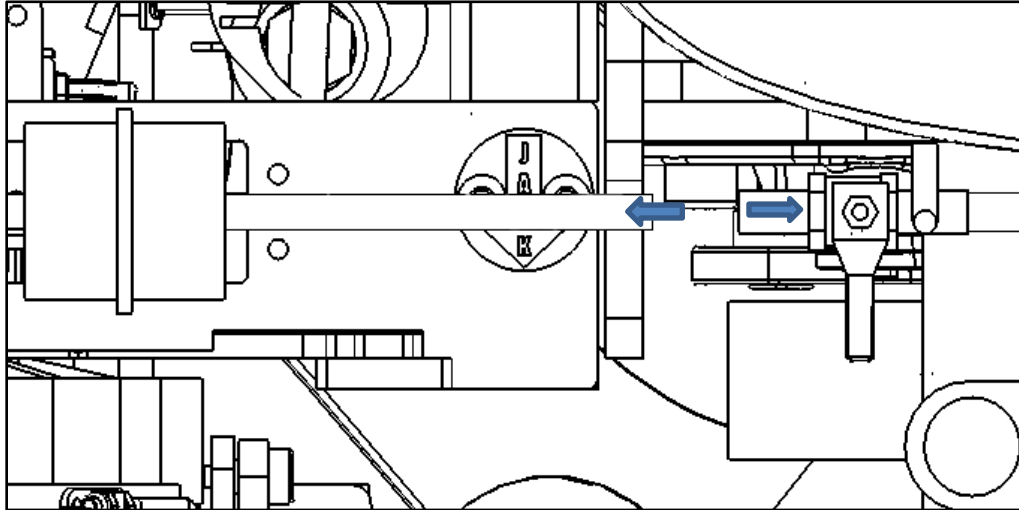

Fig. 3
3. Close the valve (Fig 2-1), then Unplug tube shown in (Fig. 3).